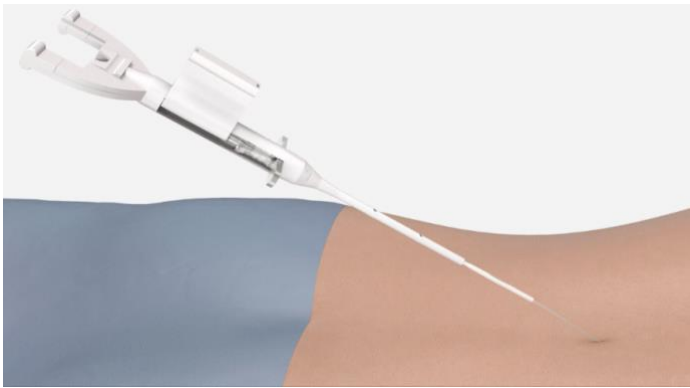

Figure 6
4. Insert the tail of the Electrode Array through the distal mouth of the Injectroducer. (Figure 6)